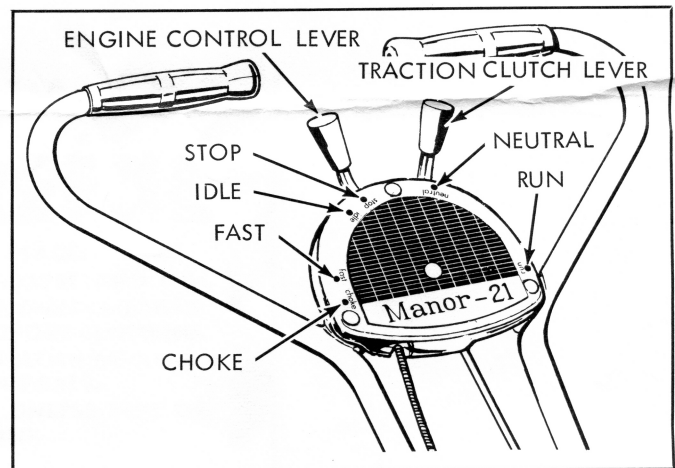

Figure 2.
5. Set throttle lever to the "choke" position on the "Choke-Run-Stop" control (See figure 2).